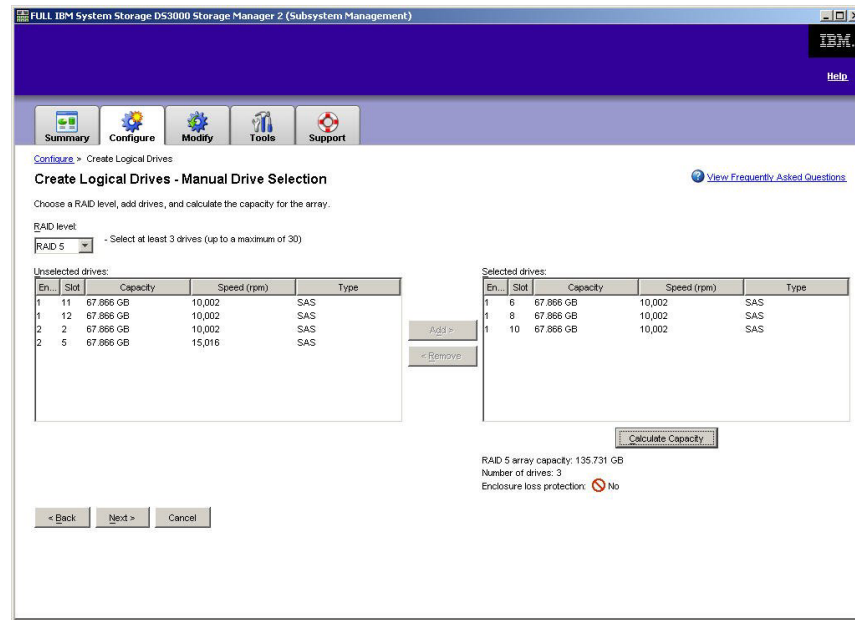

Figure 14. Manual drive selection area
8. When the **Manual Drive Selection** area is displayed, as shown in Figure 14 on page 87, select the RAID level. Select the drives from the **Unselected drives** area and click **Add** to move the drives to the **Selected drives** area. In the **Selected drives** area, click **Calculate Capacity**, and then click **Next**.